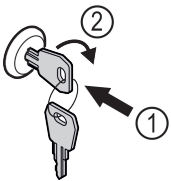

Fig. 128 Example illustration
- ▶ Insert key Fig. 128 (1).
- ▶ Turn key clockwise by 90° Fig. 128 (2).